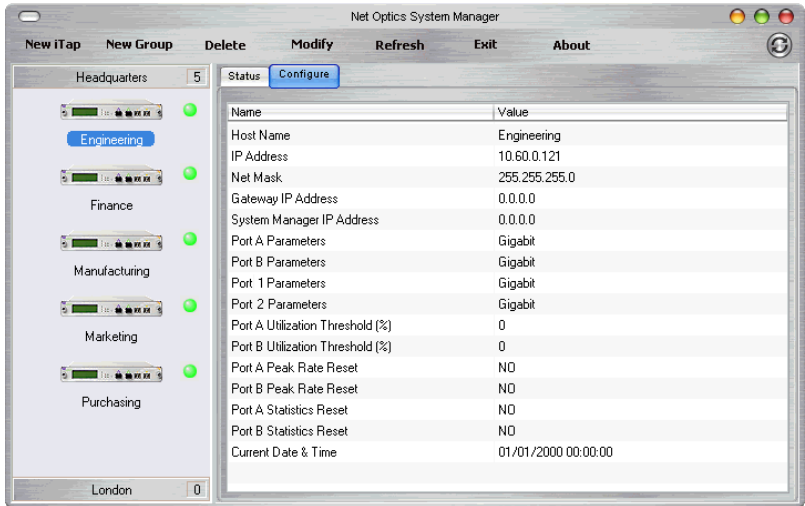

Figure 34: iTap Configure Tab
1. Click on the icon of the iTap you want to configure and click the **Configure** tab shown in Figure 34.